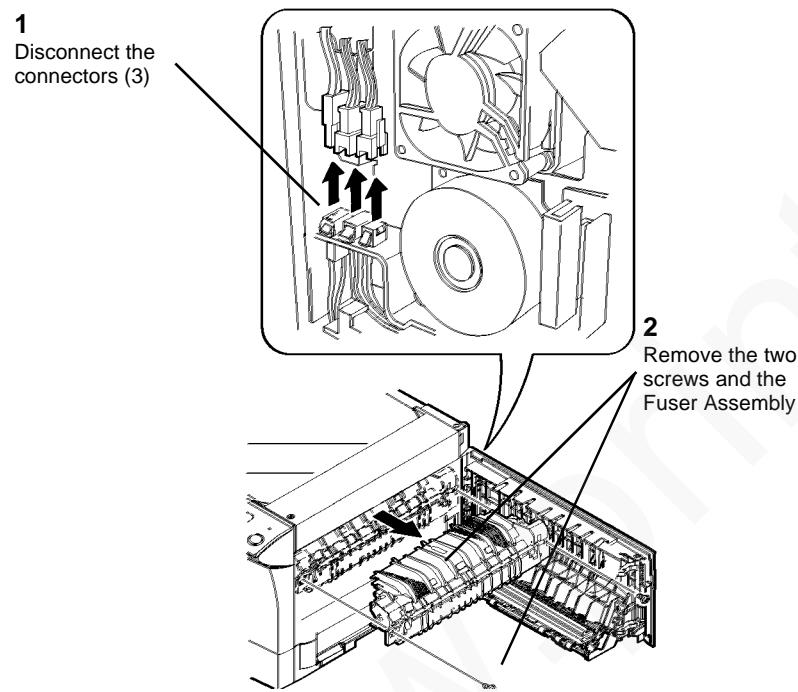

Figure 1 Removing the Fuser Assembly
4. (Figure 1): Remove the Fuser Assembly.